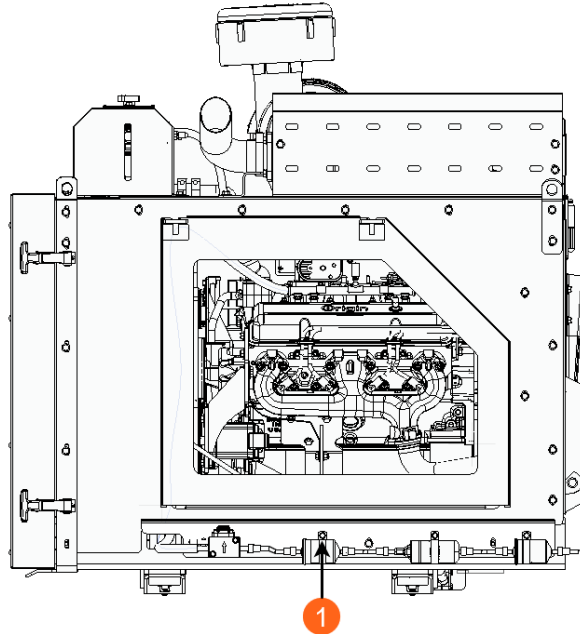

Figure 7
- 15) Replace and tighten the fuel filter between the fuel pump and fuel filter to the frame. See Figure 7.